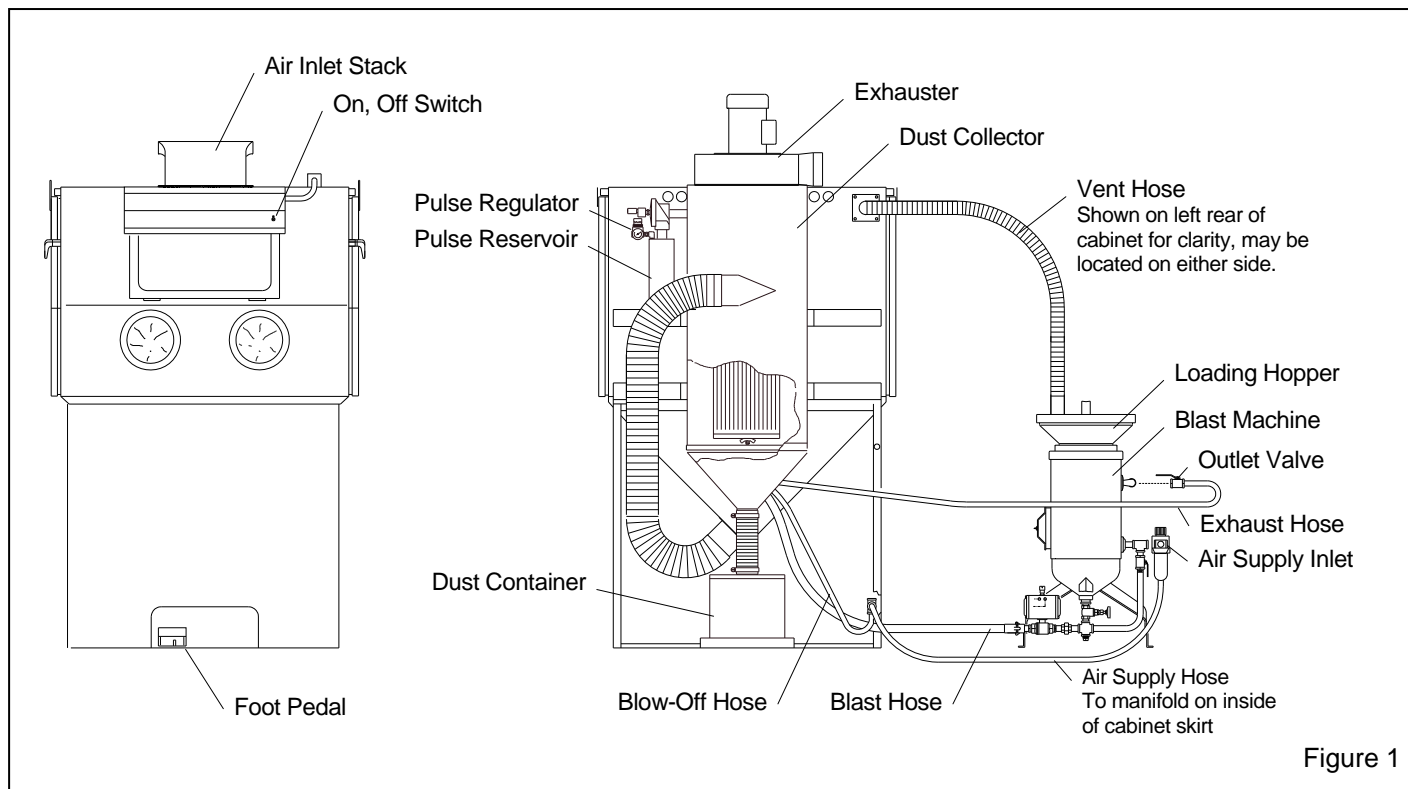

Figure 1
Refer to Figure 1 for the general arrangement and callouts of the major parts, and to Figure 2 for identification of blast machine parts.
**2.1.1** Refer to Figures 1 and 2 for the cabinet and blast machine components and Figure 13 for the controls and plumbing schematic. Select a location where compressed air and electrical service are available. The location of the cabinet and accessories must comply with OSHA and local safety codes. Allow for full access to all doors and service areas, and for efficient handling of parts. Provide enough clearance around the dust collector to empty the waste container. Determine the best location, and position all units before final assembly.